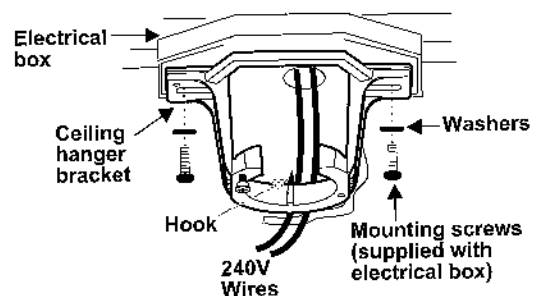

Figure 7
4. Secure the hanger bracket to the ceiling outlet box using screws and washers included with your outlet box. (Fig. 7)